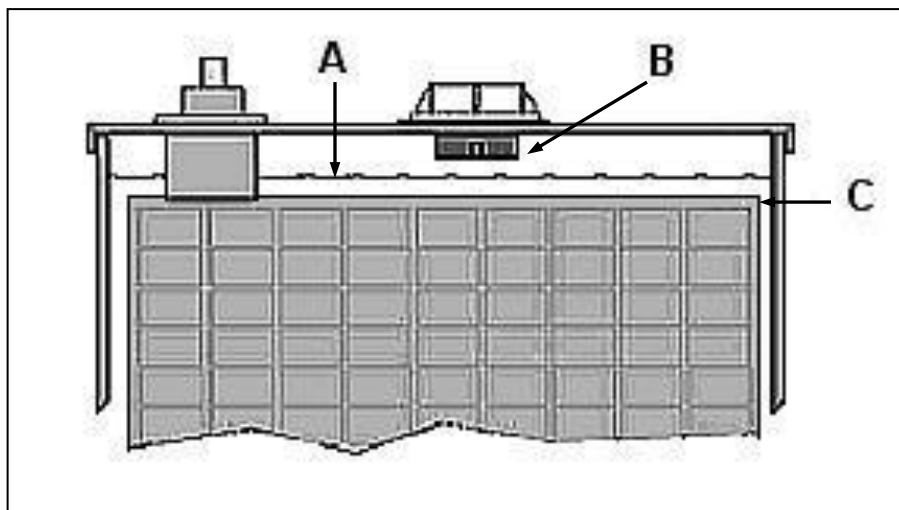

Figure 4.2.1
See Figure 4.2.1. Never allow the electrolyte level (A) to fall below the top of the plates (C). If the plates are exposed, add only enough to cover the plates before charging. After batteries are fully charged, fill cells to just below the bottom of the cell vents (B), approximately 1/8" to 1/4". Electrolyte level should not touch the bottom of the cell vents.